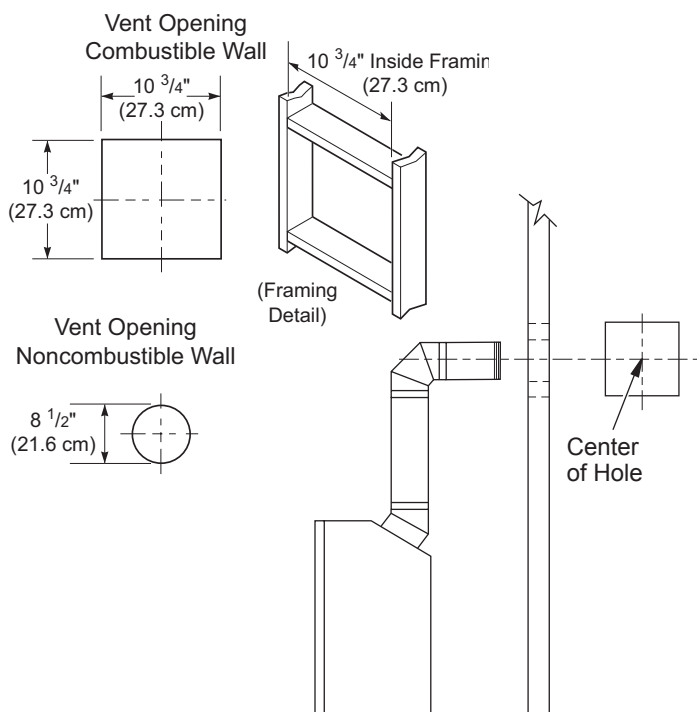
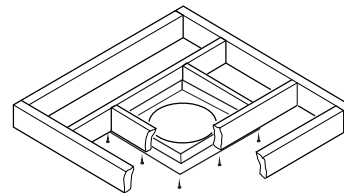

Figure 9 - Vent Opening Requirements
Figure 20 - Installing Firestop
5. Carefully determine the location where the vent pipe assembly will penetrate the outside wall. The center of the hole should line up with the center-line of the horizontal vent pipe. Mark the wall for a 10 ³/₄" x 10 ³/₄" square hole. Cut and frame the square hole in the exterior wall where the vent will be terminated. If the wall being penetrated is constructed of noncombustible material, such as masonry block or concrete, a 8 ¹/₂" hole with zero clearance is acceptable (see Figure 9).
1. Cut a 10 ³/₄" square hole in the ceiling using the locating hole as a center point. The opening should be framed to 10 ³/₄" x 10 ³/₄" (27.3 cm x 27.3 cm) inside dimensions, as shown in Figure 9 on page 8 using framing lumber the same size as the ceiling joists. If the area above the ceiling is an insulated ceiling or an attic space, nail firestop from the top side. This prevents loose insulation from falling into the required clearance space. If the area above the ceiling is a living space, install firestop below the framed hole. The firestop should be installed with no less than three nails per side (see Figure 20).
3. Cut a hole in the roof using the locating hole as a center point. (Cover any exposed open vent pipes before cutting hole in roof.) The 10 ³/₄" x 10 ³/₄" hole must be measured on the horizontal; actual length may be larger depending on the pitch of the roof. There must be a 1" clearance from the vent pipe to combustible materials. Frame the opening as shown in Figure 9, page 8.